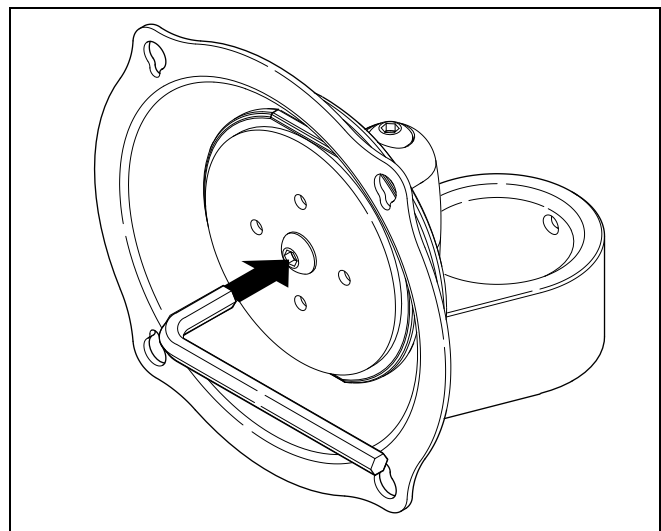

Figure 10
5. Using a Phillips screwdriver turn the tension adjustment screw clockwise to increase tension, or counter-clockwise to decrease tension. (See Figure 10)